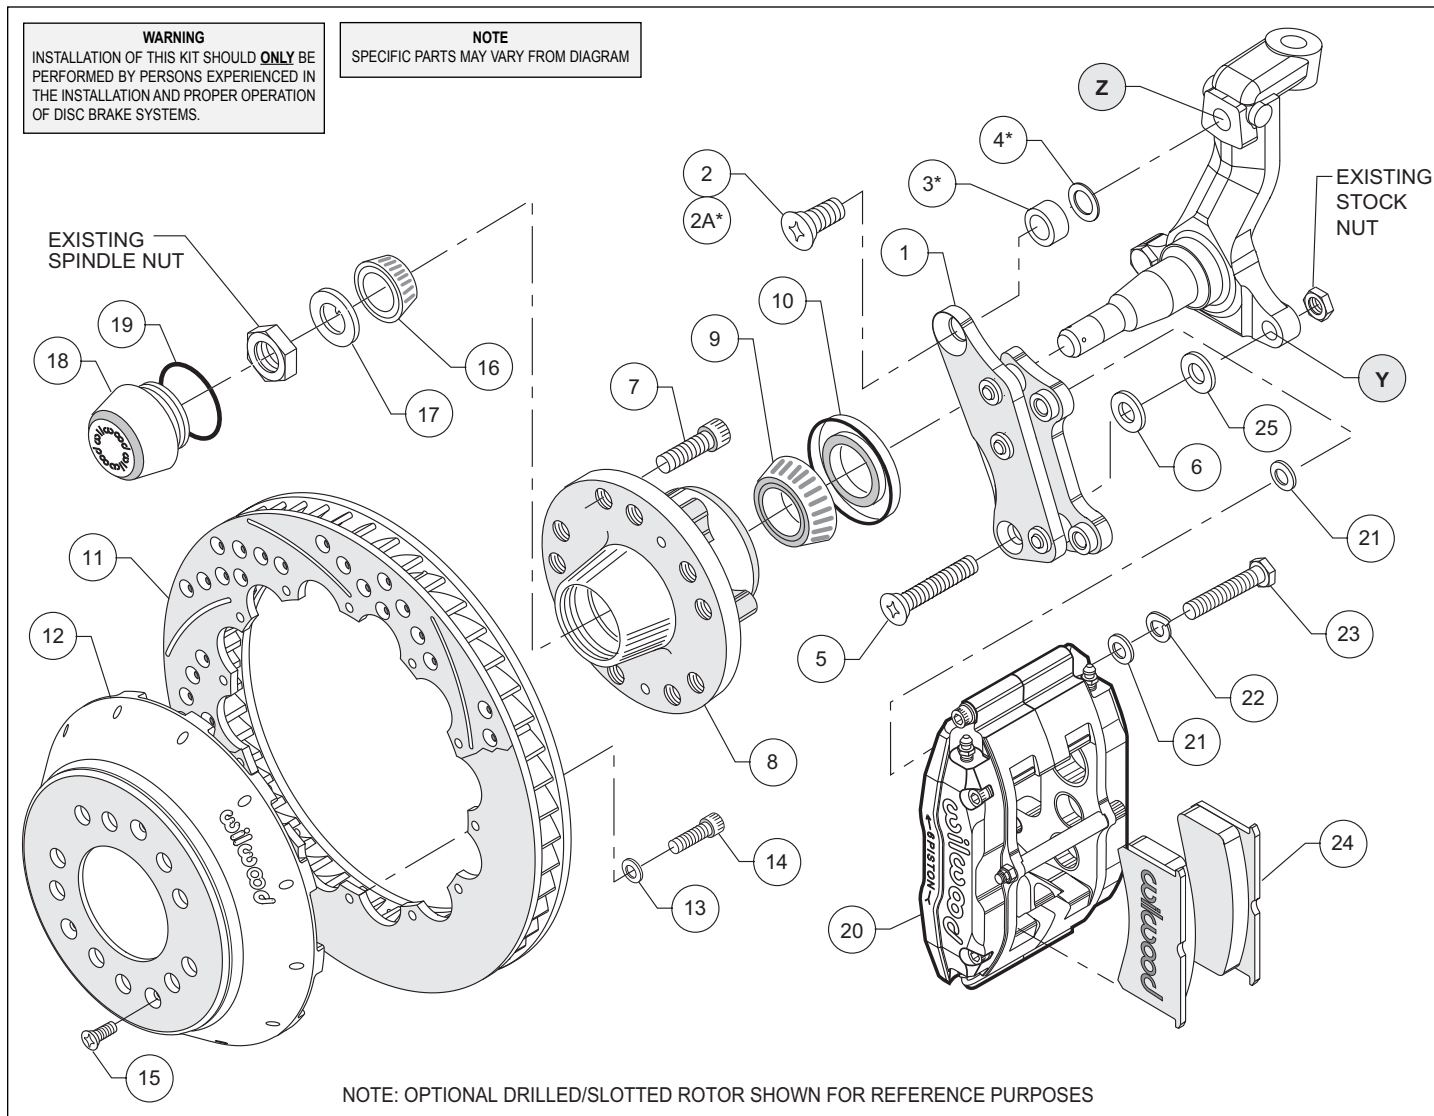
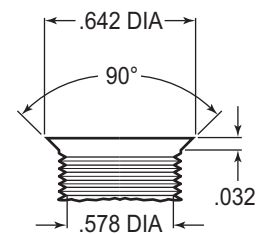

Figure 1. Typical Installation Configuration
Figure 3. Drill and Tap Detail
•**NOTE:** 1964-66 spindles may require the following modifications (reference Figure 1 and Figure 3): Top anchor pin hole (Z) must be drilled and tapped to the dimensions as outlined in Figure 3. Bottom rear steering arm bolt hole (Y) in the spindle and steering arm must be enlarged to .50" by drilling. A 1/2-20 backing nut (not supplied in kit) will need to be acquired to torque bracket / steering arm bolt (supplied in kit)
•**Disc Application:** Apply red *Loctite*® 271 to bolt threads (2A) before assembly of the caliper mounting bracket (1). Mount bracket (1) to face of dust plate mount pad of spindle using the bottom bolt (5) while positioning washer (6) and shim washer (25) "if needed for bracket flatness" between bracket and spindle face, finger tighten only. Install the upper bolt (2A) with spacer 3 and flat washer (4), ensuring flatness positioned between bracket and top hole of spindle face, torque to 120 ft-lb. Torque bolts (5) to 77 ft-lb. **NOTE:** Be sure the heads of the bracket (1) insert nuts are facing outward toward the wheel.
•**Drum Application:** Apply red *Loctite*® 271 to bolt threads (2) before assembly of the caliper mounting bracket (1). Mount bracket (1) to face of dust plate mount pad of spindle using the bottom bolt (5) while positioning washer (6) between bracket and spindle face, finger tighten only. Install the upper bolt (2), torque to 120 ft-lb. Torque bolts (5) to 77 ft-lb. **NOTE:** Be sure the heads of the bracket (1) insert nuts are facing outward toward the wheel.
•Install wheel studs (7) into the hub (8). Torque to 77 ft-lb. **NOTE:** There are two five lug patterns in the hub (5 x 4.50 and 5 x 4.75). Make sure of the correct hole pattern for the correct wheel application before installing studs into hub.
•Pack the large inner bearing cone (9) with high temperature disc brake bearing grease (available from your local auto parts store) and install into the backside of the hub (8).
•Install the grease seal (10) by pressing into the backside of the hub (8).